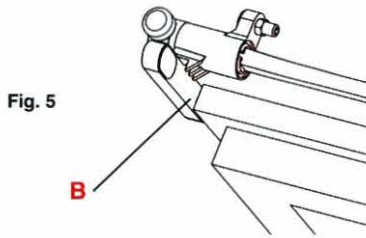
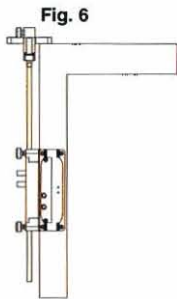

Fig. 5
Fig. 6
1) Rest the rod on the door and take the support surface for the external part of the door (B) into contact with the top edge of the door (Figure 5) and the reference surfaces of the jigs into contact with the relevant door surfaces (Figure 6).